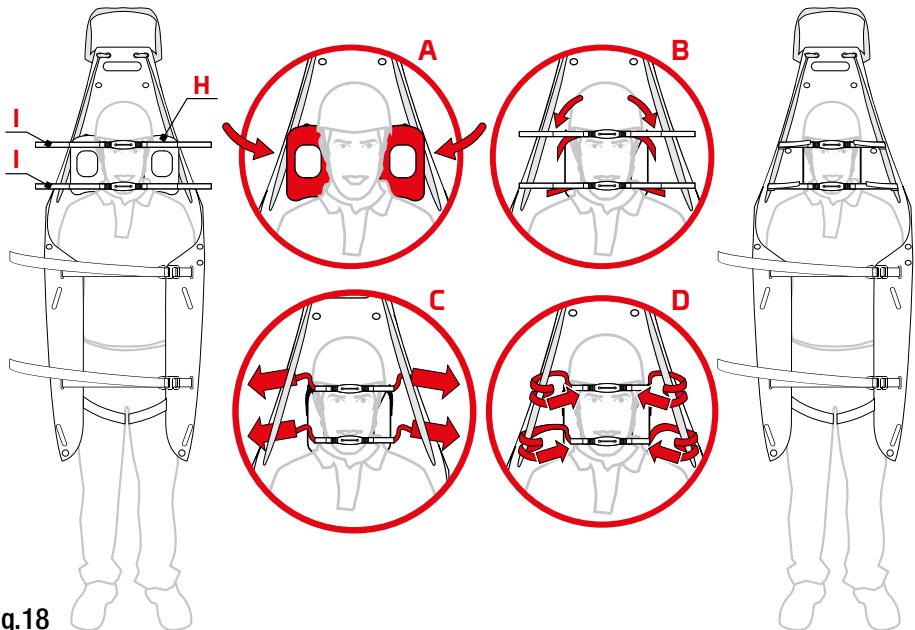

Fig.18
- a) Fasten the chin strap (I) to the head immobilizer HRP (H), using the velcro (fig. 18),
- b) Wind the chin strap velcro (I) around the rope (M) or the sling (E) and make it adhere to itself (fig. 18).